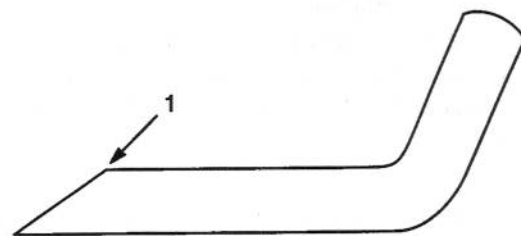

Figure 15
3. Examine the cutting edges of all blades. Sharpen the cutting edges if they are dull or nicked. Sharpen only the top side of the cutting edge and maintain the original cutting angle to assure sharpness (Fig. 15). The blade will remain balanced if same amount of metal is removed from both cutting edges.